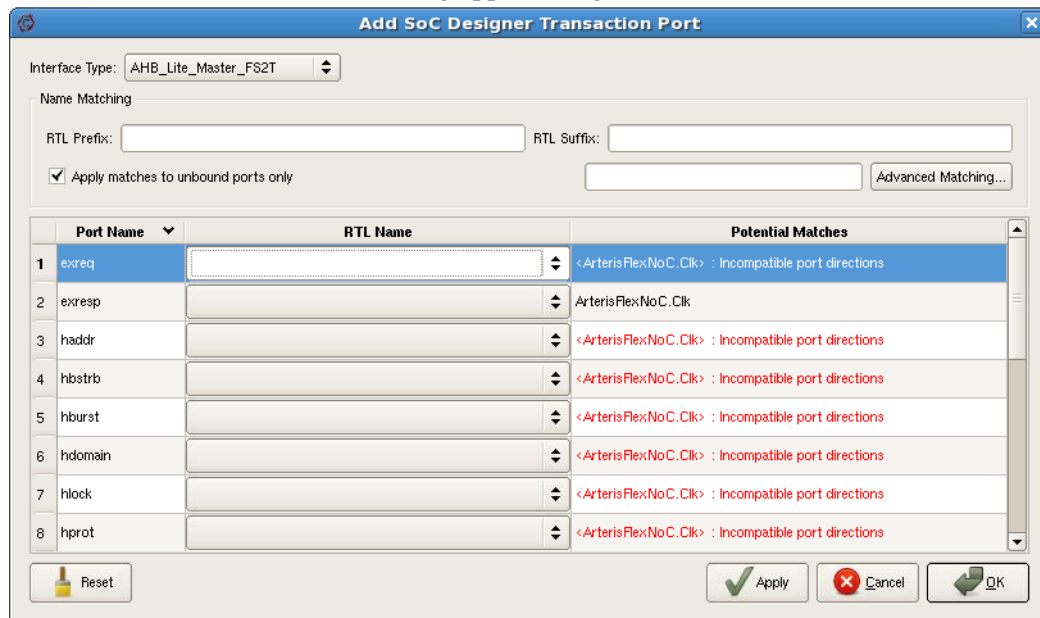

Figure 5-17 Add Port dialog
1. In the *Ports Toolbar*, click the **Add Transactor** button (for Platform Architect, the button is **Add Protocol**). The Add Port dialog appears (Figure 5-17).